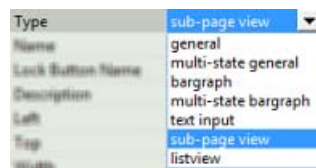

FIG. 113 Type (General) Property - sub-page view
2. In the *General* tab of the Properties window - **Type** property, set **sub-page view** as the button type (FIG. 113):